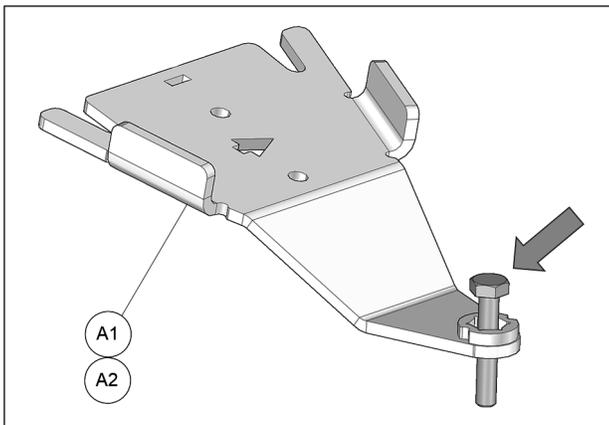

Fig. 15
4. Insert bolt in front anchor bracket (A1-A2) as shown in Fig. 15